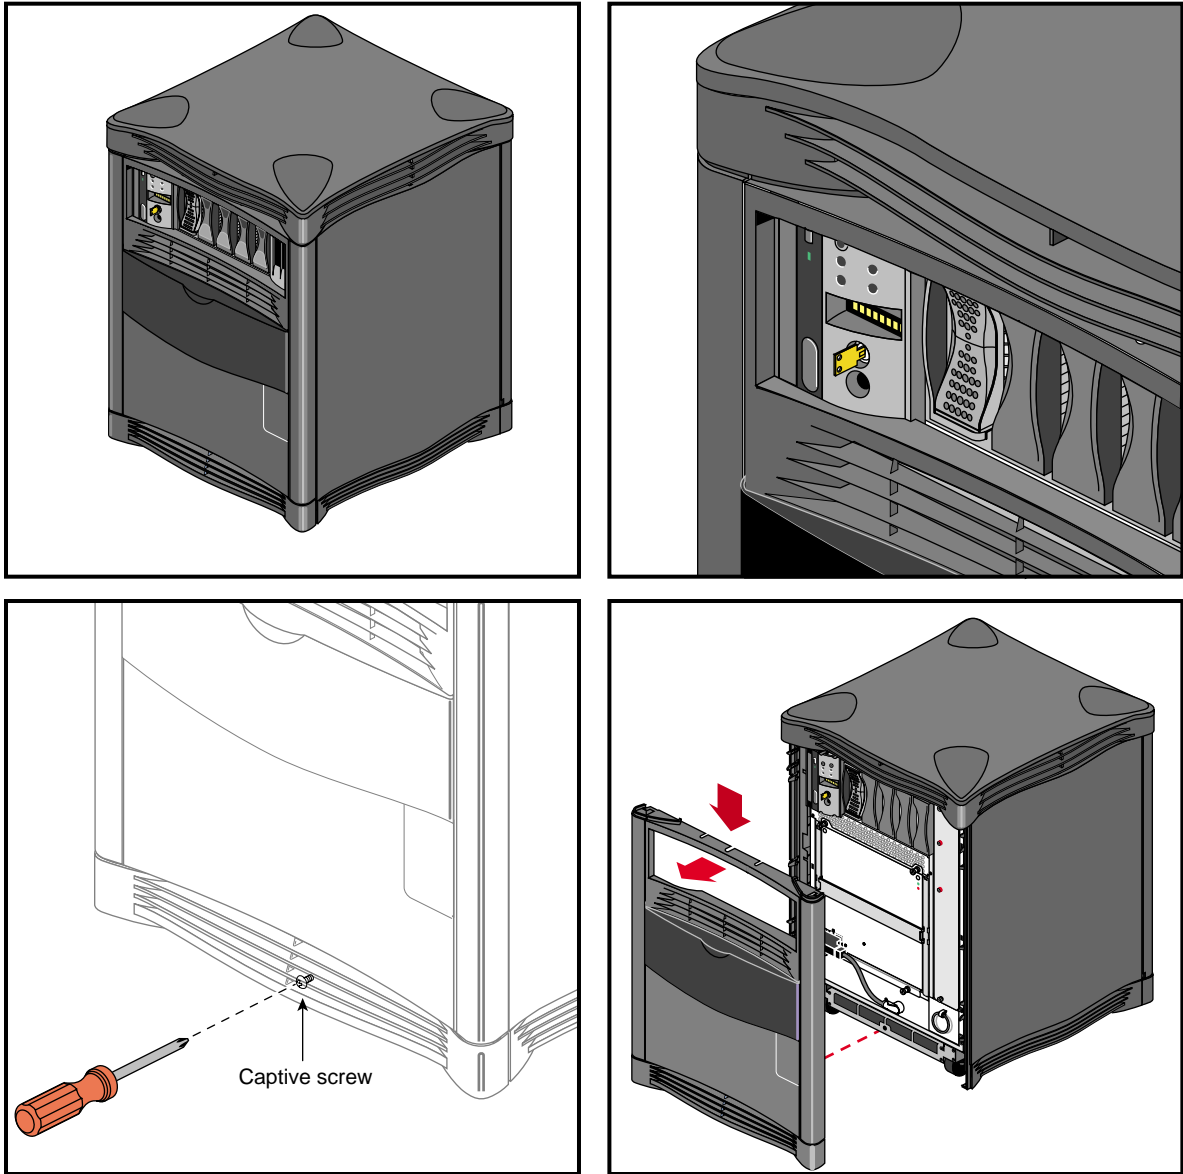

Figure 3-2 Removing the Front Plastic Panel
2. Remove the plastic front panel cover by undoing the captive Phillips-head retaining screw located near the center of the bottom grill (see Figure 3-2).